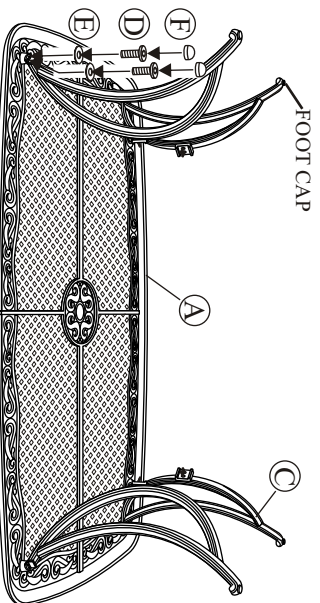

Fig. 1
1 **Important: We recommend 2 people work together to assemble the chair.** Note the arrow labels on the "U" bar and the rocker assembly. Also note the horseshoe shape of the rocker plate. Point the open end of the horseshoe away from you. The arrows on the rocker assembly should be pointing towards you. Set the chair frame on the rocker assembly with front of the seat facing you and the arrows on the "U" bar pointing towards you as shown in **Figure 1**. This is very important for a safe, balanced rocking motion. **If chair frame has been properly positioned on the rocker assembly, all arrows on the "U" bar and rocker assembly will be pointing in the same direction.**
Step 2: Place the table top upside down on a flat, non-abrasive surface. Attach a table leg to the table top by using the bolts and washers as shown in Fig. 1. Guide bolts through holes in the table legs and into the pre-drilled holes in the table top. **Hand tighten 2-3 turns only.** Repeat for the other three legs.
Place the table top upside down on a flat, non-abrasive surface. Attach the table leg to the table top by using the bolts and washers as shown in Fig. 1. Guide the bolts through the holes in the table leg, into the pre-drilled holes in the table top. **Hand tighten only.** Repeat for the other three legs.